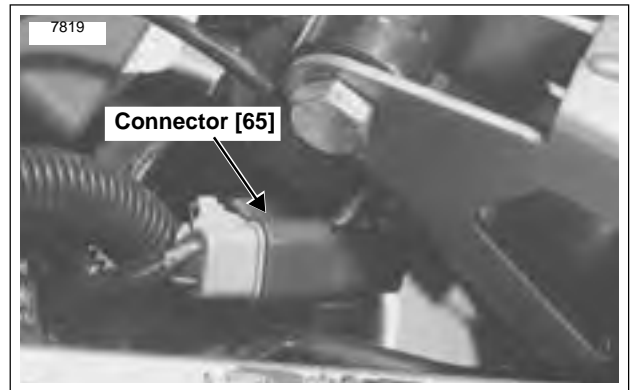

Figure 7-98. Speed Sensor Connector [65]
7. See Figure 7-98. Mate speed sensor connector [65]. Tuck excess harness into right frame pocket.